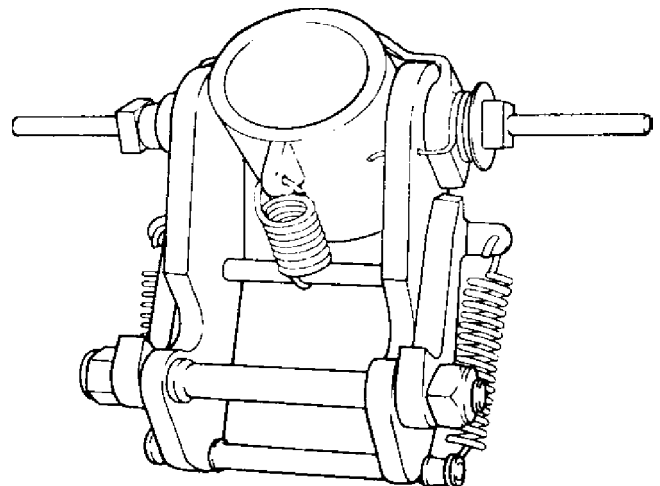
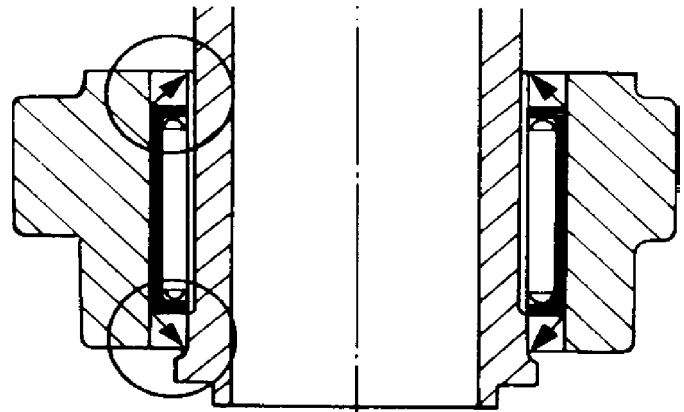

Fig. 26.
Fig. 28.
**NOTE:** Tighten the nuts (55) fully, then slacken them about 1/8 of a turn so that the spring hooks move without being loose. Now fit the lock clamp (47), and the shaft pins (48) with spring (57) and washer (51), in the journalling (43). Place the spring shaft (50) in position with the help of the springs (58) and fit the spring (49) between the journalling (43) and the stop shaft (56). Paint the retaining pawl with a thin coating of genuine VP touch-up paint. Concerning assembled retaining pawl, see Fig. 26.
2. Grease the needle bearing (12) with universal grease and drive the bearing into the yoke with tools 884259 and 9991801. Press in both the sealing rings (13) with the help of the same tools.
**NOTE:** The sealing rings must be able to prevent water from seeping in, see Fig. 28. Apply bushing installation adhesive on the bush (11) and fit the bush in the yoke with the flange facing down towards the retaining pawl.
3. Fit the retaining pawl in the yoke (earlier model) and screw tight the guide plugs (14).
**NOTE:** Do not forget the wear washer (25) between the lower attachment of the yoke and the intermediate housing, also the two plastic washers (16 and 60) on each side of the journalling (43). Observe due care when fitting the guide spindle not to damage the sealing ring.
6. Fit the shift yoke and push in the shaft (4) and lock with a split pin.
**NOTE:** A washer (5) should be fitted on each side of the split pin.